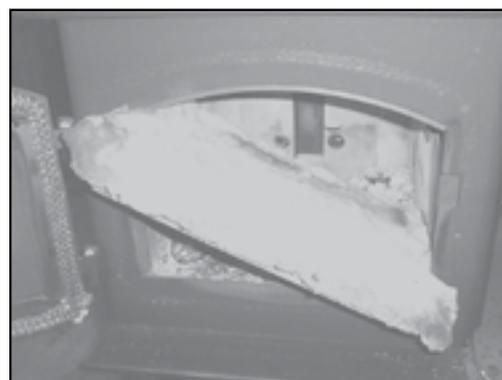

FIGURE 24C - Baffle with ceramic blanket on top.
4. Slide baffle and ceramic blanket forward to front of stove, tilt down and slide to the door. Tilt to one side and slide both through door at the same time. Keep them tilted as you lift it out of the door. **See Figure 24C.**